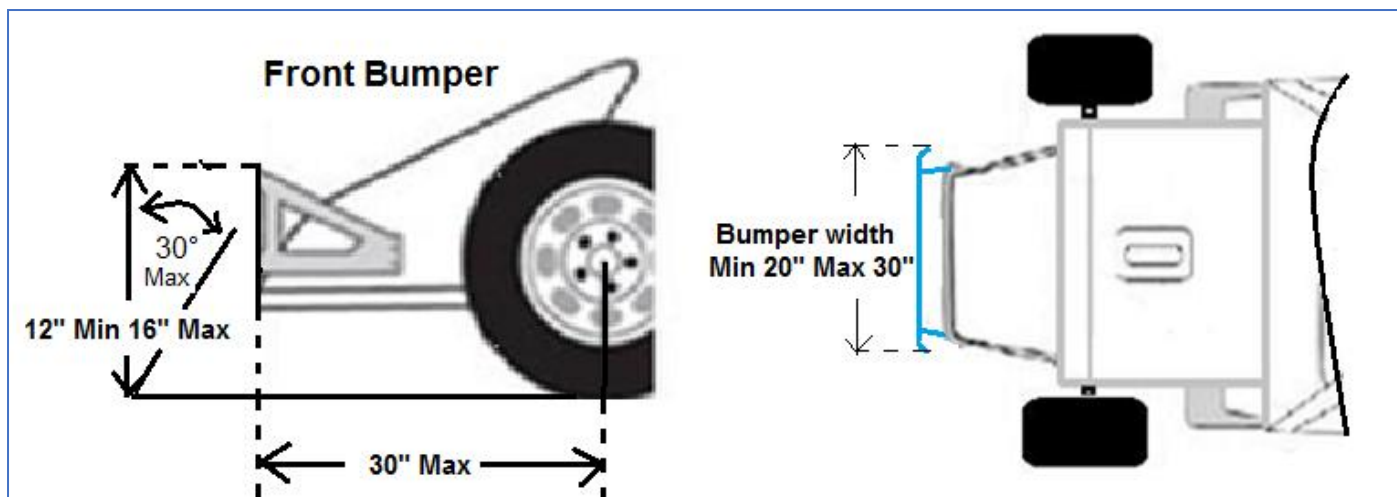

Figure 11
16.1 Front maximum width 30", minimum width 20". Ground to top of bumper: 12" minimum, 16" maximum. Bumper may not extend more than 30" forward of spindle measured from the centre of the front spindle to the outside of front bumper. Front bumpers may have a maximum rake of 30°. (*Figure 11*).